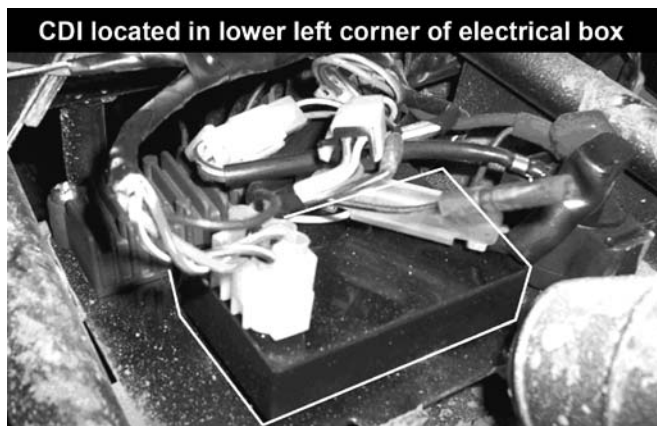

fig. D1
D. Optional Speed Reduction Installation *(see fig. D1)*